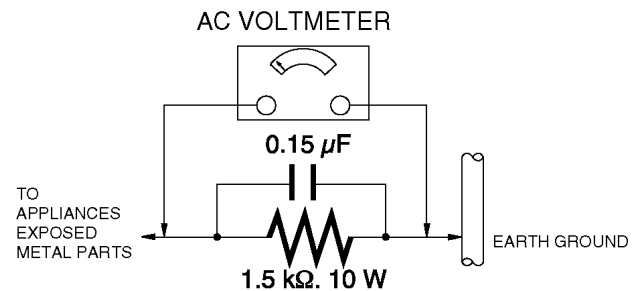

Figure. 1
## 1.3. Leakage Current Hot Check (See Figure 1.)
2. Connect a  $1.5\text{ k}\Omega$ , 10 W resistor, in parallel with a  $0.15\text{ }\mu\text{F}$  capacitor, between each exposed metallic part on the set and a good earth ground, as shown in Figure 1.